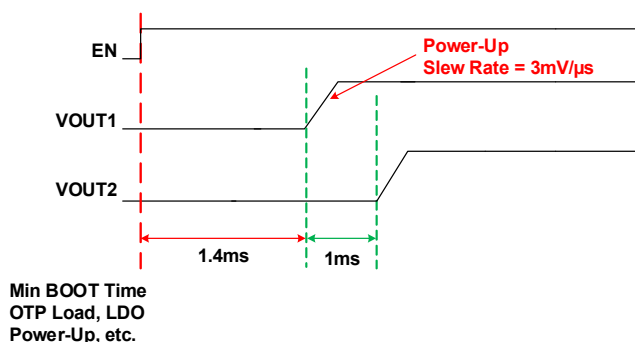

Figure 24. Master Chip Enable Power-Up Example
Note: The delay, BUCKx_EN_DLY[5:0] shown in Figure 24 as EN_dlyx, is programmable from 0 to 63ms in 1ms steps.
Figure 24 provides an example of power-up configurability. The master chip enable pin (EN) transitions from 0 to 1 and OTP is loaded over 1.4ms. After the initial 1.4ms boot interval, the buck output start-up sequence begins. In the Figure 24 example, BUCK1_EN_DLY is set for 0ms and BUCK2_EN_DLY is set for 1ms.